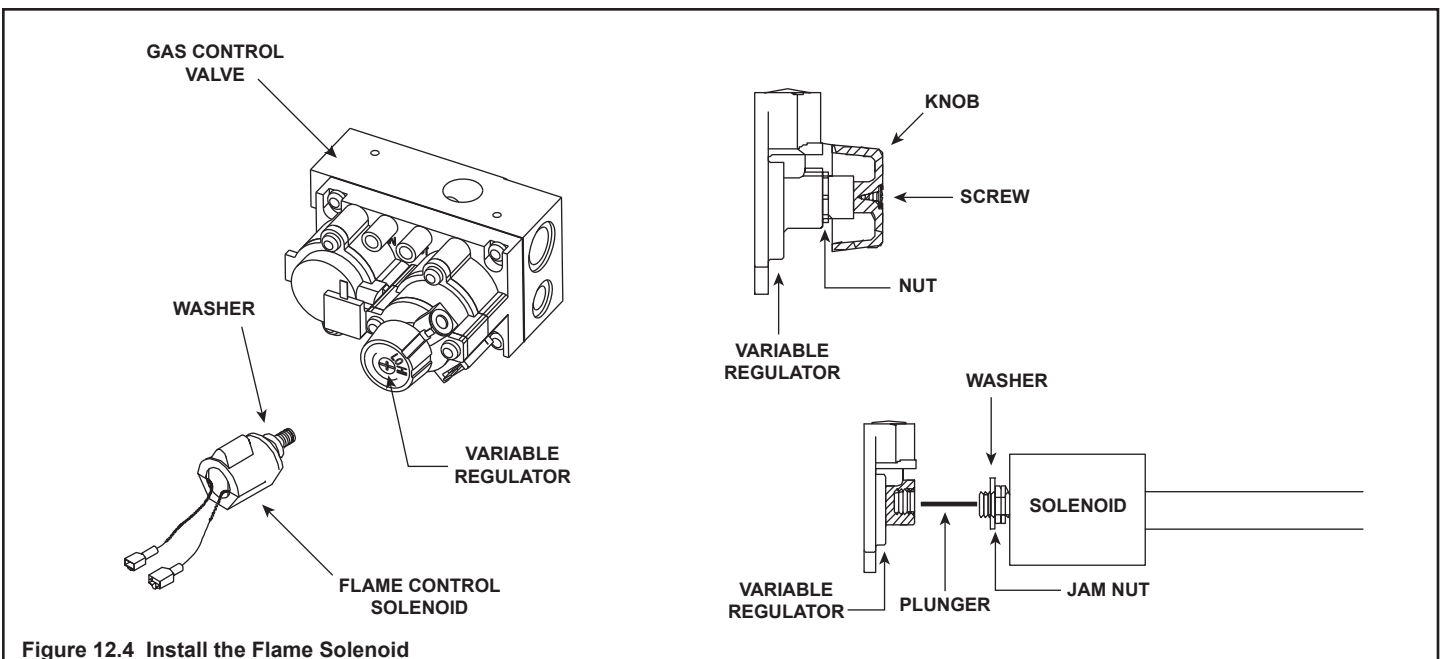

Figure 12.4 Install the Flame Solenoid
- Press flame button once (see Figure 12.4); fireplace will light with flames on high.
- Turn solenoid clockwise to increase pressure, counterclockwise to decrease pressure until manifold pressure on high is 3.5 in. water column for natural gas (NG), 10.0 in. water column for propane (LP).